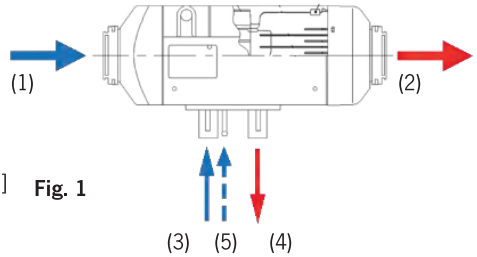
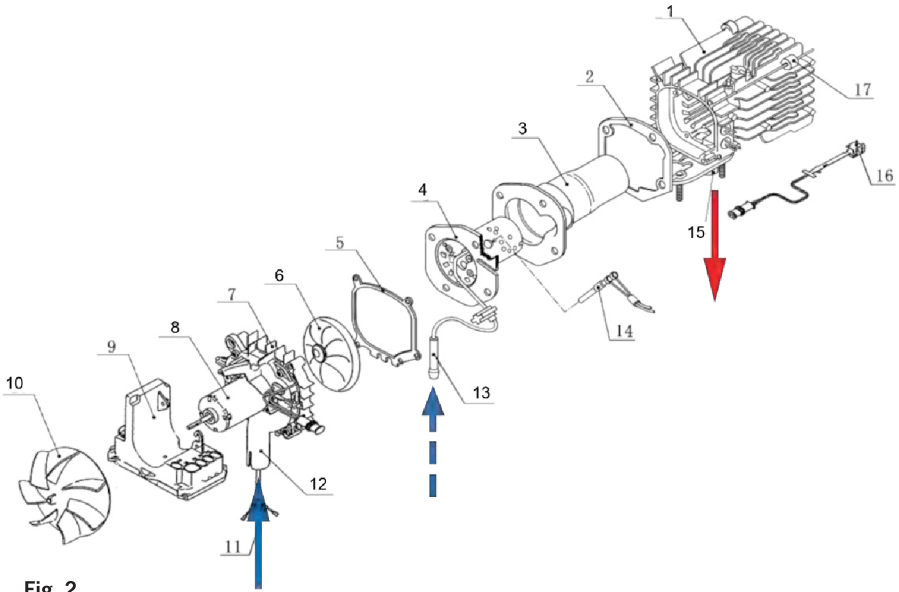
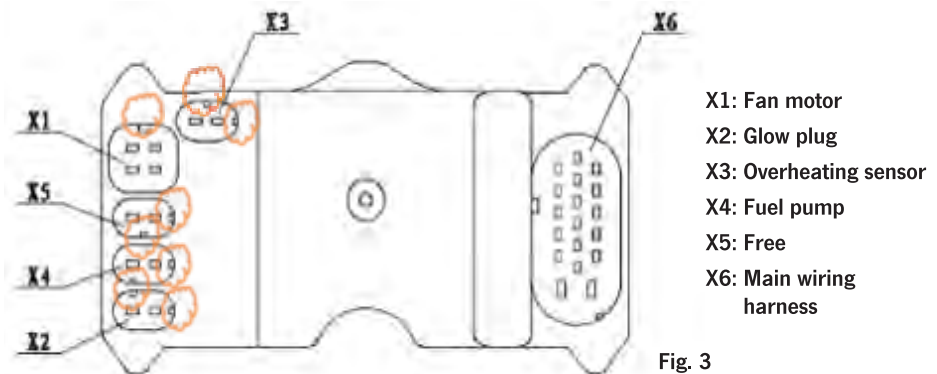

Fig. 1
Fig. 2
Fig. 3
This furnace consists of a burner [Page 80 Fig. 2 (4)] and a combustion chamber [Page 80 Fig. 2 (3)] which are situated inside of a heat exchanger [Page 80 Fig. 2 (1)].
Cold air is sucked into this passage by the impeller [Fig. 1 (1)] [Page 80 Fig. 2 (10)]. After passing the heat exchanger hot air is blown out [Fig. 1 (2)].
For the burning process the heater must be supplied with fuel and fresh air. The fuel enters the burner through the fuel pipe inlet [Fig. 1 (5)] [Page 80 Fig. 2 (13)] and is ignited by the glow plug [Page 80 Fig. 2 (14)] after its atomization. The flame enters the gap between the walls of the burner [Page 80 Fig. 2 (4)] and the combustion chamber [Page 80 Fig. 2 (3)] at the rear of the burner.
The supply of combustion air is provided by the air intake [Fig. 1 (3)] [Page 80 Fig. 2 (12)]. The inner supply air fan [Page 80 Fig. 2 (6/8)] forces the air into the burner. After the combustion of the air and vaporized fuel mixture the exhaust is discharged through the exhaust gas stub [Fig. 1 (4)] [Page 80 Fig. 2 (15)].
The controller [Page 80 Fig. 2 (9)] is situated in the anterior part of the heater behind the impeller of the heating air fan. Its main tasks consist of collecting all data of the heater (e.g. temperature sensors, drive circuit, frequency, rotational speed, voltage, and more). Based on these data the controller automates the heating process, the system surveillance and the handling of system malfunctions.
The overheating sensor [Page 81 Fig.3 (X3)] is installed on the back outer wall of the heat exchanger [Page 80 Fig. 2 (16)]. If the temperature of the aluminium becomes higher than a defined upper limit, the fuel pump circuit will be cut off by the controller and the supply of fuel is stopped immediately. Then for purpose of overheating protection the heater is turned off.